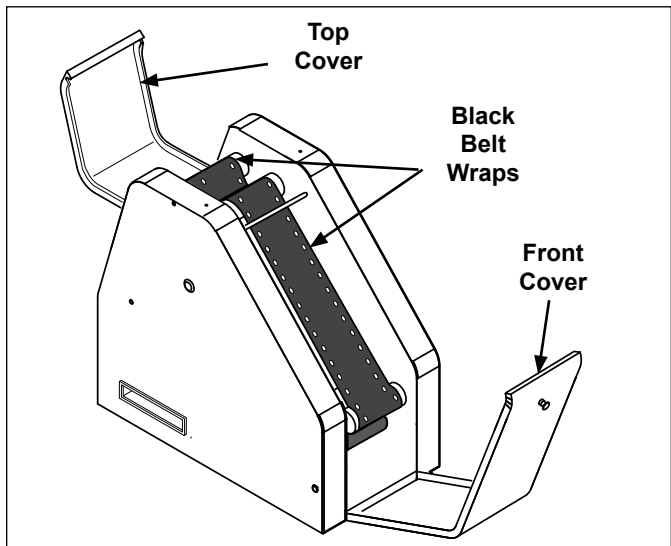

Figure 8. Accessing Belt Wraps
1. Open the Front Cover and Top Cover (Figure 8).
5. Open the Front Cover and Top Cover (Figure 8).